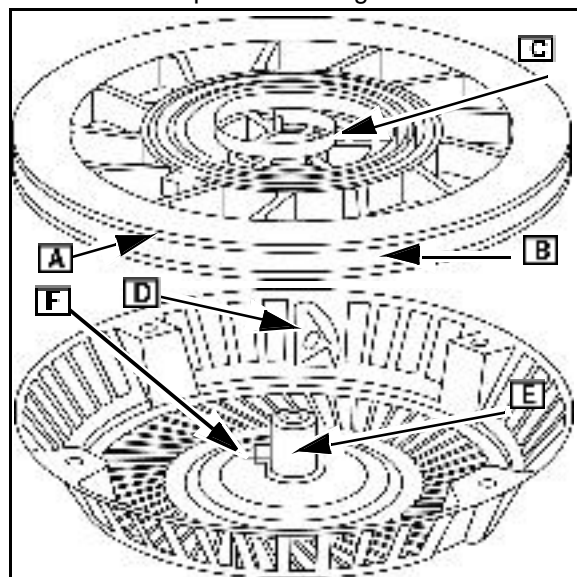

Fig. 6
1. Inspect pulley for wear, cracks, rough edges (A) or burrs in pulley groove (B) and wear on center hole ([C] Fig. 6). Replace pulley if damaged or worn.
3. Inspect starter housing for wear or sharp edges at rope eyelet (D), center pivot post (E), and inner spring anchor tab ([F] Fig. 6). Replace assembly if worn or damaged.